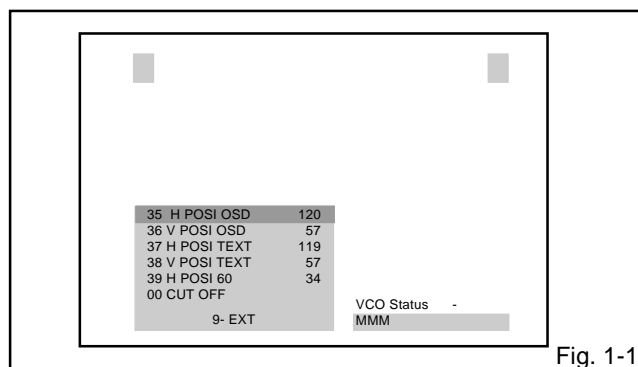

Fig. 1-1
Press the VOL. DOWN button on the set and the Channel button (9) on the remote control for more than 2 seconds to appear the adjustment mode on the screen as shown in Fig. 1-1.
3. Activate the adjustment mode display of Fig. 1-1 and press the channel button (13) on the remote control to select "VCO COARSE".
4. Activate the adjustment mode display of Fig. 1-1 and press the channel button (01) on the remote control to select "RF AGC".
4. Activate the adjustment mode display of Fig. 1-1 and press the channel button (00) on the remote control to select "CUT OFF".
4. Activate the adjustment mode display of Fig. 1-1 and press the channel button (03) on the remote control to select "R DRIVE".